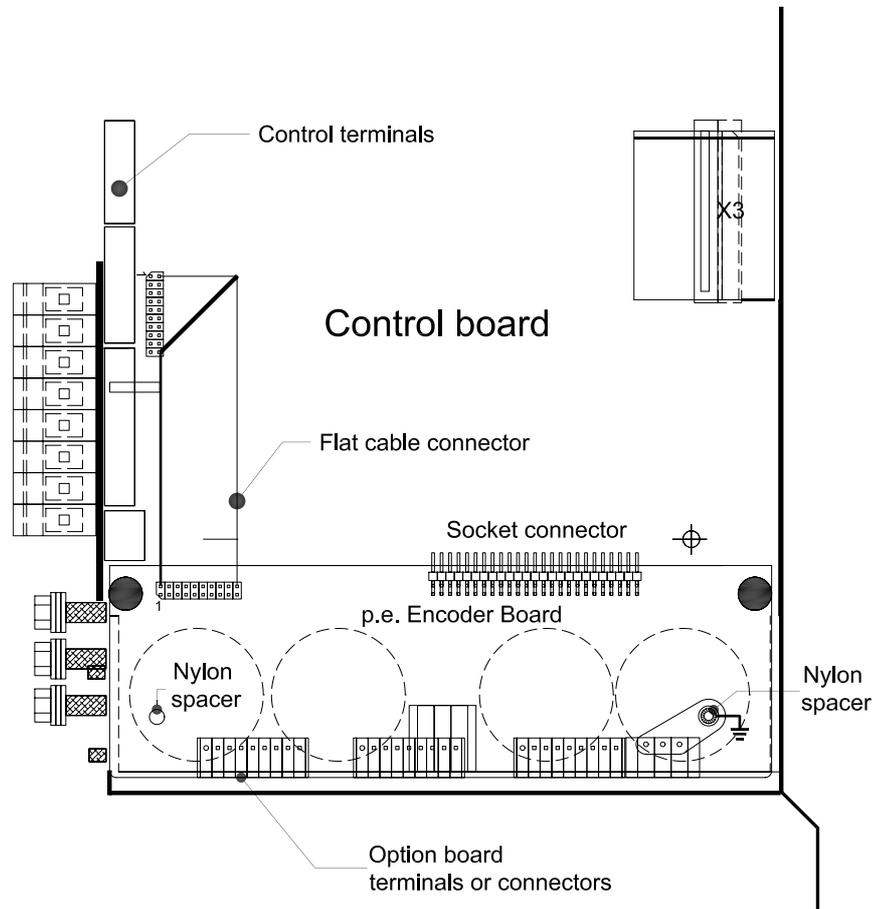

Figure 6.2
8. Using the supplied ribbon cable, make an additional connection between the pin connectors of the control board and the option card (see “Ribbon cable connection” in Figure 6.2). The side of the ribbon cable marked in colour must be plugged onto the PIN marked “1”.